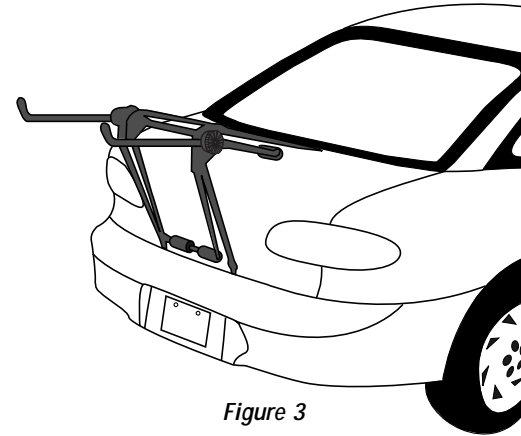

Figure 3
6. Place the XPORT Essential II on your vehicle. Attach the two upper hooks into the gap at the leading edge of the trunk or hatch lid. Adjust the length of the straps so as to correctly position the rack. See figure 3. Do not attach top hook to glass or metal trimmed glass.